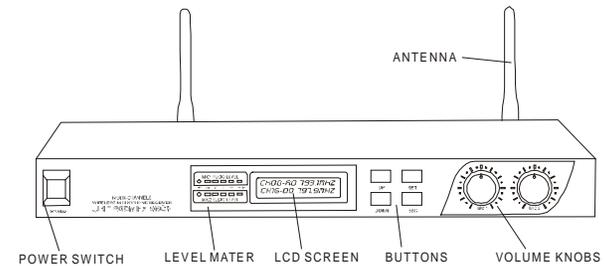

Fig.24 Receiver 8221
4.5.1 Receiver 8220 was shown in Fig.24. Take out the receiver and the receive antennas from packing box; place the receiver near the performance area (stage), mounting the antennas to the receiver. Point the antennas upward. Make sure, that the transmitter (microphone) will never get any closer to the receiver than 10 ft (3m), optimum separation is 16 ft (5m). There should always be a direct line of sight between the microphone and receiver. Place the receiver least 5 ft (1.5m) away from any big metal objects, walls, scaffolding, ceilings, etc.